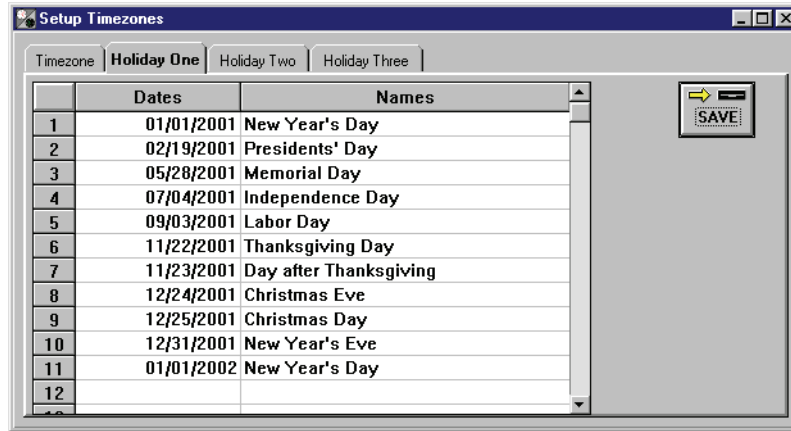

Figure 3-9: Holiday One Example Schedule
7. When complete, the holiday one schedule should appear similar to Figure 3-9 on page 14 of this section. Any discrepancies can be corrected by clicking on the cell or field and making the correction.
2. Click on the Holiday One tab. The holiday one schedule is displayed (see Figure 3-9 on page 14 of this section).